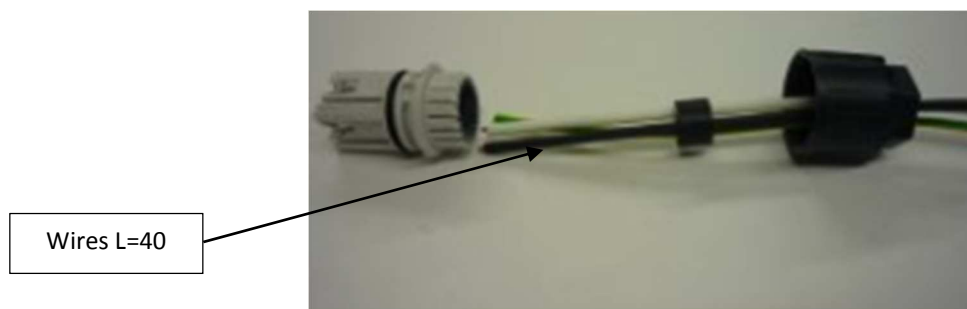

Figure 24: wires pulled through the grommet
- insert the new cable leads with plug and the grounding wire through the bulkhead connector nut, and the through the grommet with three holes. Pull the wires for approx. 40 mm in respect to the grommet (fig. 24).